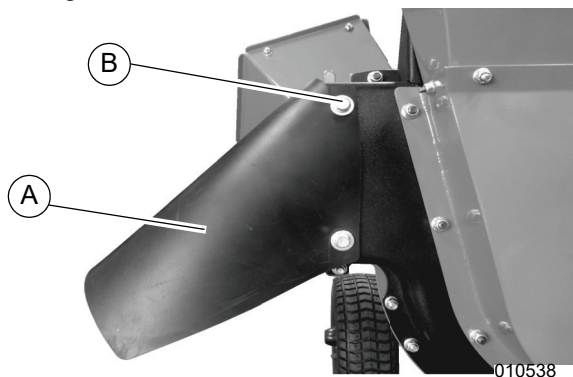

Figure 2-9. Attaching Discharge Deflector
1. See Figure 2-9. Secure one side of discharge deflector (A) at the two mounting locations with 5/16-18 x .75 bolts and washers (B) using a 1/2" wrench.